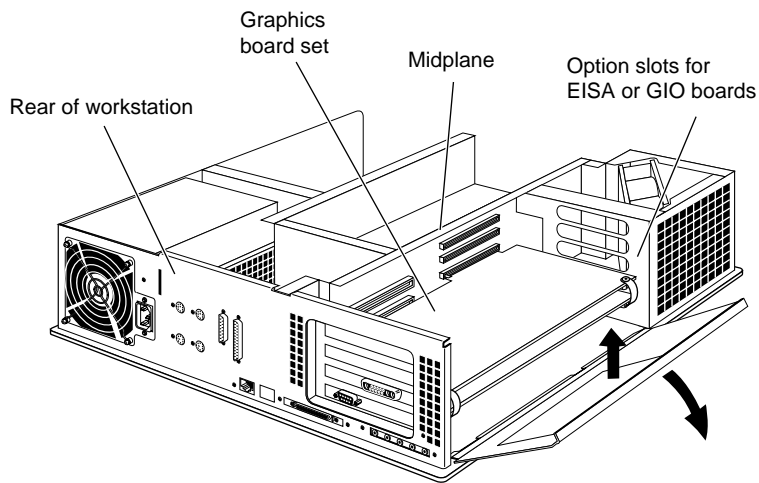

Figure 4-19 Opening the Metal Panel in Front of the Option Slots
4. Move the workstation or position yourself so that you are facing the option slots. The option slots are located on the side toward the rear of the workstation. See Figure 4-19.
5. Open the metal panel located in front of the option slots by pulling up on the panel and lowering it down, as shown in Figure 4-19.